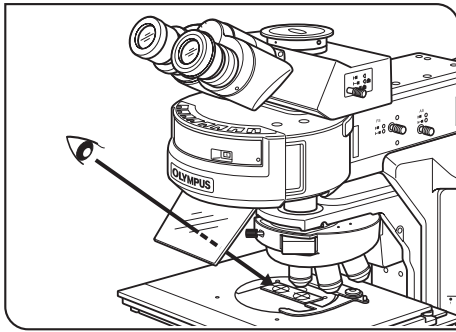

Fig. 4
9. While observing the image on the U-CST directly without through the eyepieces, adjust centering of the mercury burner with the following procedure (Fig. 4).